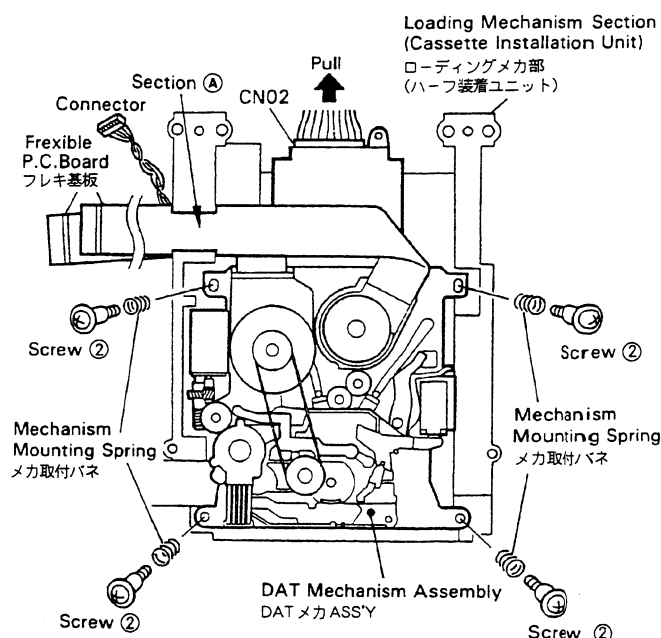

Fig. 2-2
4. Remove the two flexible P.C.Board and the connector wires from the slot of section (A). (Refer to Fig. 2-2)
5. Remove the four screws ② and the four mechanism mounting springs, and remove the DAT mechanism assembly from the cassette installation unit. (Refer to Fig. 2-2)
4. フレキシ基板2本とコネクタの線材1本を(A)部の溝から外す。(図2-2参照)
5. ネジ②4本とメカ取付けバネ4本を外して、ハーフ装着ユニットからDATメカ ASSYを外す。(図2-2参照)